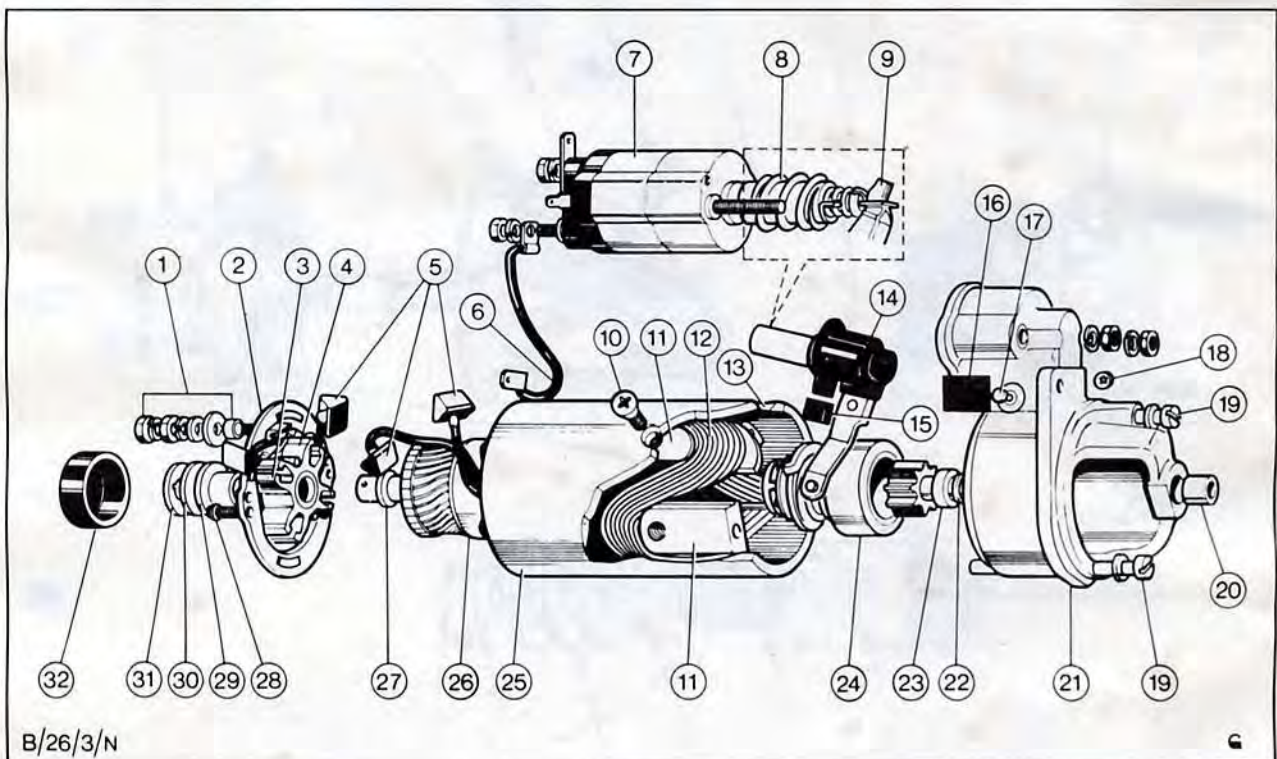

Fig. 3. Lucas 5M90 (Pre-Engaged) Starter motor
This starter motor is a four pole, four brush motor with a series wound field and a solenoid operated roller clutch drive, Fig. 3, item 24.